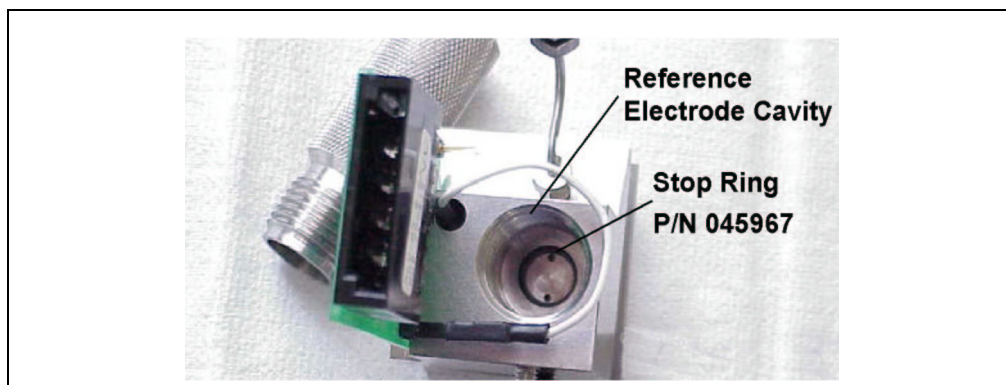

Figure 5-5. Reference Electrode Cavity Stop Ring
9. Verify that the stop ring (P/N 045967) is in place at the bottom of the reference electrode cavity (see Figure 5-5). The stop ring prevents the reference electrode from bottoming out and thereby blocking the flow path inside the cell.